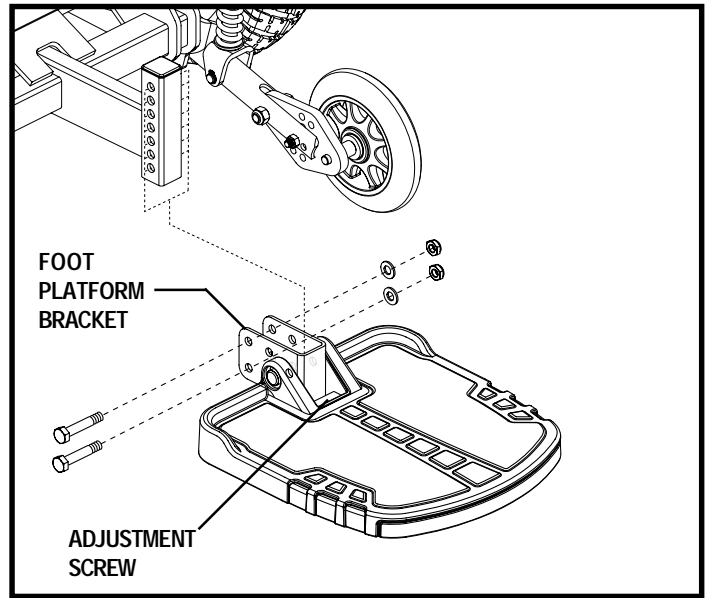

Figure 16. Jazzy Select Foot Platform Adjustment
1. Remove the fasteners from the foot platform bracket. See figure 16 or 17.
You can adjust the angle of the foot platform. See figure 16 or 17.